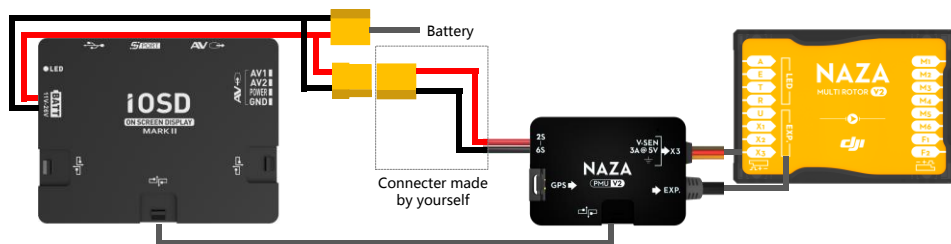

Fig.2 Connection between iOSD and the NAZA-M V2
- (2) NAZA-M V2 (Fig.2): Make a connector to connect the PMU V2, iOSD and battery.